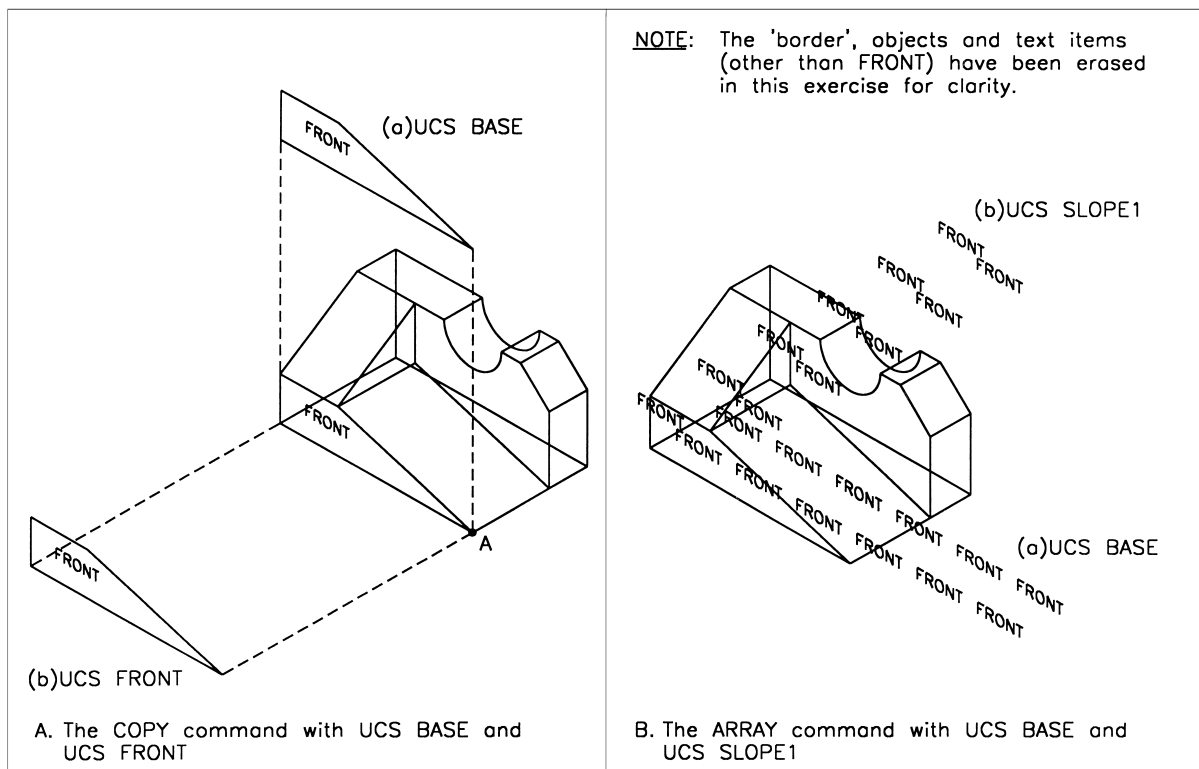

Figure 6.1 The COPY and ARRAY commands with 3DWFM.
enter **@0,0,260 <R>** – Fig. 6.1.A(a)
- prompt* Specify second point and enter: **@0,0,260 <R>** – Fig. 6.1.A(b)
- 3 The text item is arrayed in a 2×6 rectangular matrix as Fig. 6.1.B(a)
- 5 Rectangular array the original FRONT text item using the same entries as step 2 – Fig. 6.1.B(b)